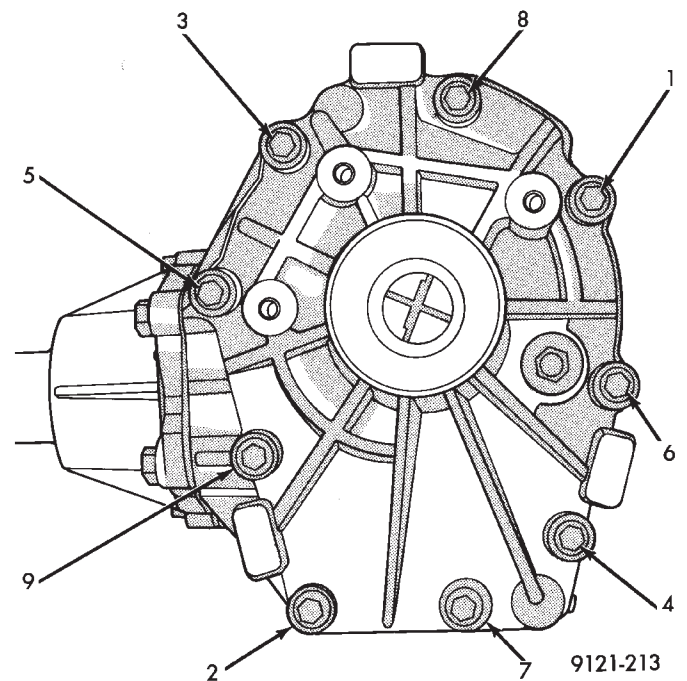

**Fig. 3 Seal Removal**
- (4) Pry out seal with a pry bar (Fig. 3).